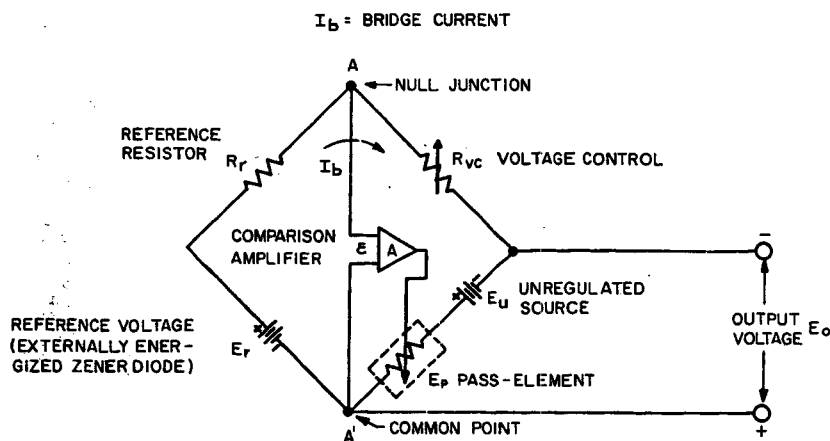

FIG. 3-3 KEPKO POWER SUPPLY CIRCUIT WITH COMPARISON BRIDGE (SIMPLIFIED)
- 3-9 GENERAL. A few general remarks may be in order to familiarize the user of this equipment with the terminology and basic equations pertaining to remote programming of Kepco Power Supplies. Electrically, the power supply, consists of the unregulated DC source ( $E_u$ ), the pass element ( $E_p$ ), the DC error amplifier (A) and a comparison circuit which resembles a four-arm electrical bridge. (Refer to FIG. 3-3). The elements of the bridge are arranged to produce a virtual zero at the amplifier input when the bridge circuit is at balance ( $V_{AA'} = 0$ ). Any tendency for the output voltage to change in relation to the reference voltage ( $E_r$ ) creates an error signal ( $\epsilon$ ) which, by means of negative feedback and the amplifier, tends to correct the output voltage towards restoration of bridge balance.